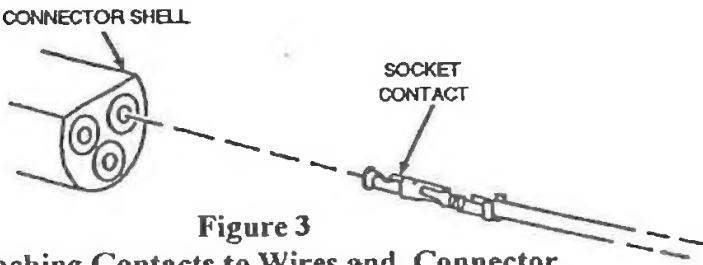

Figure 3
A. Tower Mounted as per Figure 3	15 sq. ft. (1.4 sq. m) of wind surface area